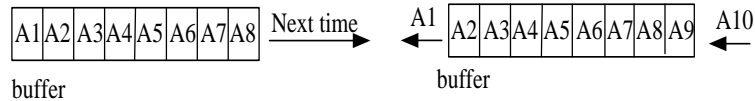

Figure 3-41
2. Assuming the Reading Average Time is set to = 8, the Average Method is set to MOVING, the readings sampling is that the device removes the oldest sample in the buffer and saves a new sample, then averages them in repetition as Figure 3-41 shows.